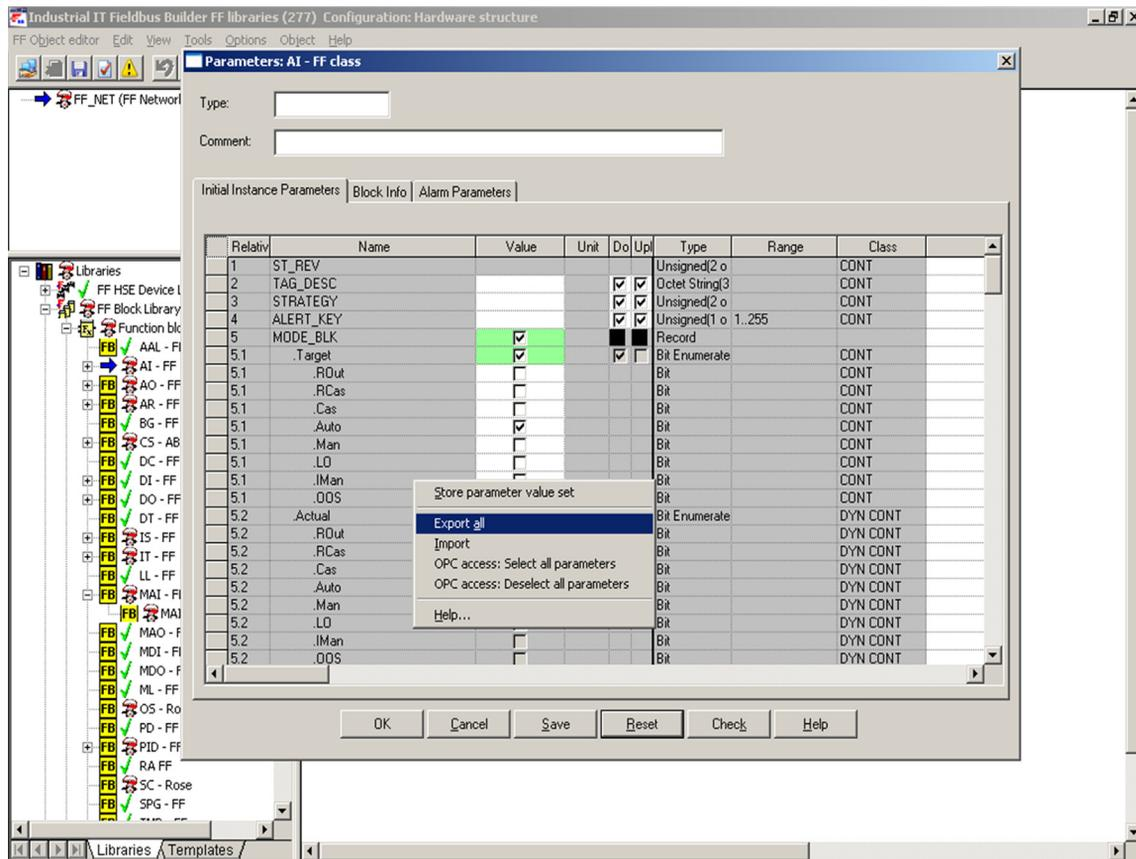

Figure 22. Exporting Locally Stored Parameter Value Sets
8. Right-click and select **Export** from the context menu (Figure 22).